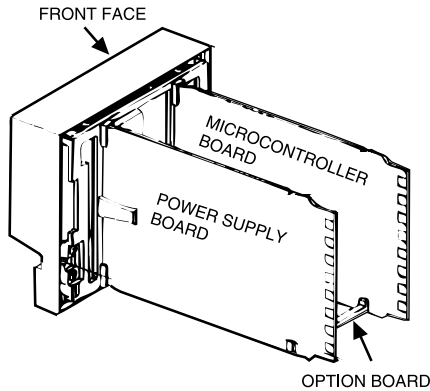

Figure 1
2. Slide the chassis out of the case by pulling on front face plate assembly at the bezel (see **Figure 1**).